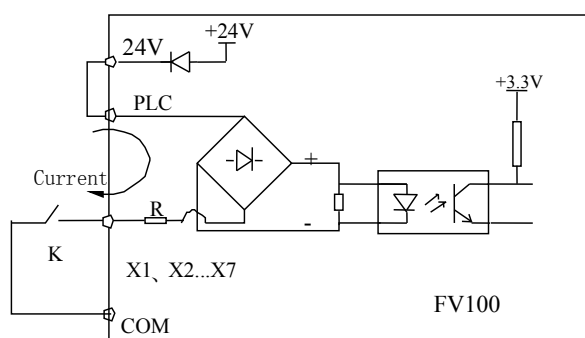

Fig.4-7 Wiring method of using the internal 24V power supply
FV100 multi-function input terminal uses a full-bridge rectifying circuit as shown in Fig.4-7. PLC is the common terminal of terminals X1~X7, The current flows through terminal PLC can be pulling current and the feeding current. Wiring of X1~X7 is flexible and the typical wiring are as follows:
1) Analog differential voltage input, the wiring is as in fig.4-7.